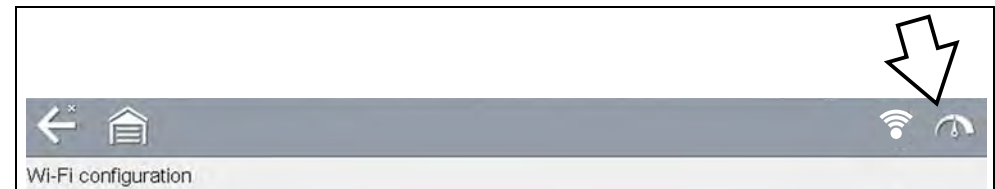

Figure 14-3 Wi-Fi Test Icon
3. From the Wi-Fi configuration screen, select the **Wi-Fi Test** icon to open the network connection test screen (Figure 14-3).